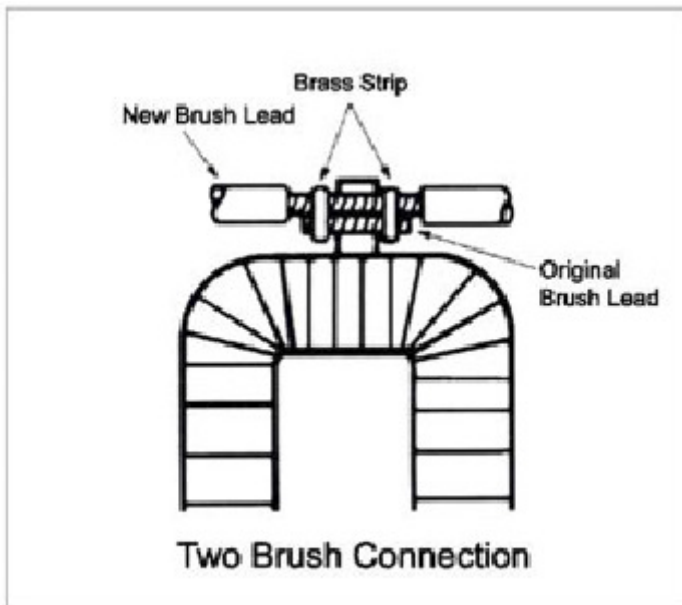

Figure 1
3. Position the new brush lead next to the tinned sections of the original brush lead then install crimp the brass strip connections (included) around both leads to hold the new brushes in place. **(See figure 1).**